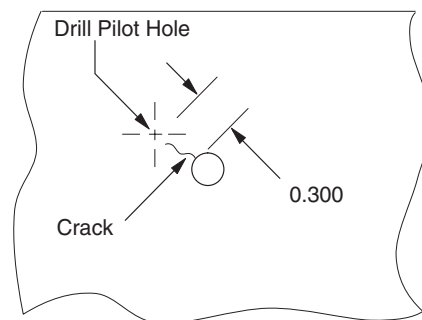

Figure 9-02 — Crack Length < 0.200"
- 9.2.3.2 For crack lengths less than 0.200 inch, the center of the pilot hole shall be located 0.300 inch from the point of crack origin. See Fig. 9-02.